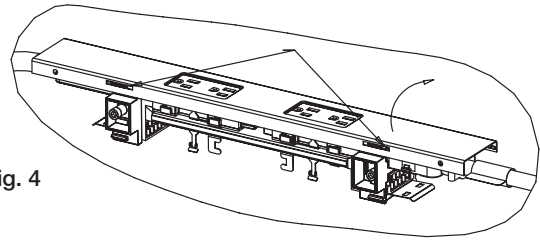

Fig. 4
6. Install the front distribution cover over the receptacles by aligning the cover slots with tabs at the bottom and rotating the cover up to snap flange over the mounting bracket. Repeat for opposite side (*optional*). **(Fig. 4)**